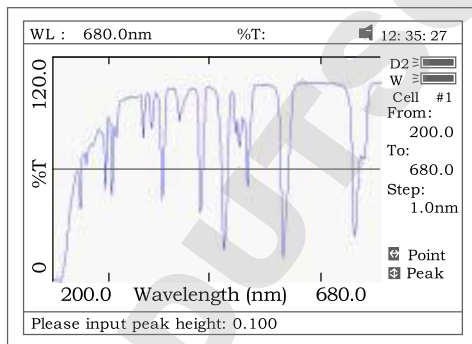
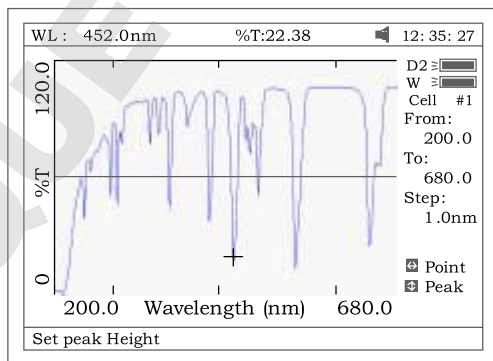

Fig 49
Fig 50
- a) *Peak to peak, press **[F1]** to set “peak height” and input value by pressing the numeric keypad (Fig 49). Press **[^]** to search the peak from left to right and press **[v]** to search from right to left. The value of every peak found will be displayed on the screen one at a time (Fig 50).*